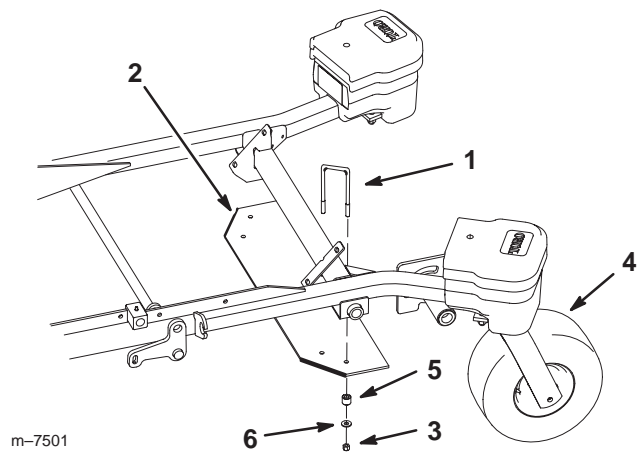

Figure 32
2. Install the single weight plate onto the machine frame with 2 U-bolts (3/8 x 6 inch), 2 spacers, 2 washers (3/8 inch), and 2 nuts (3/8 inch) (Fig. 32).